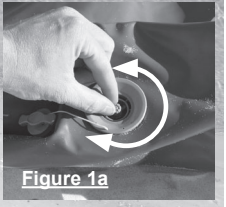

Figure 1a
- 2) Once in the setup/ launch position, unroll and place the Summit on the ground or sand near the water's edge, and locate the valve. Unroll the tube section opposite the valve into shallow water as shown in Figure 1. Remove the Main Valve cover and push valve plunger in. Twist the valve stem 90 degrees to open or close the 1-Way valve feature as shown in Fig. 1a.